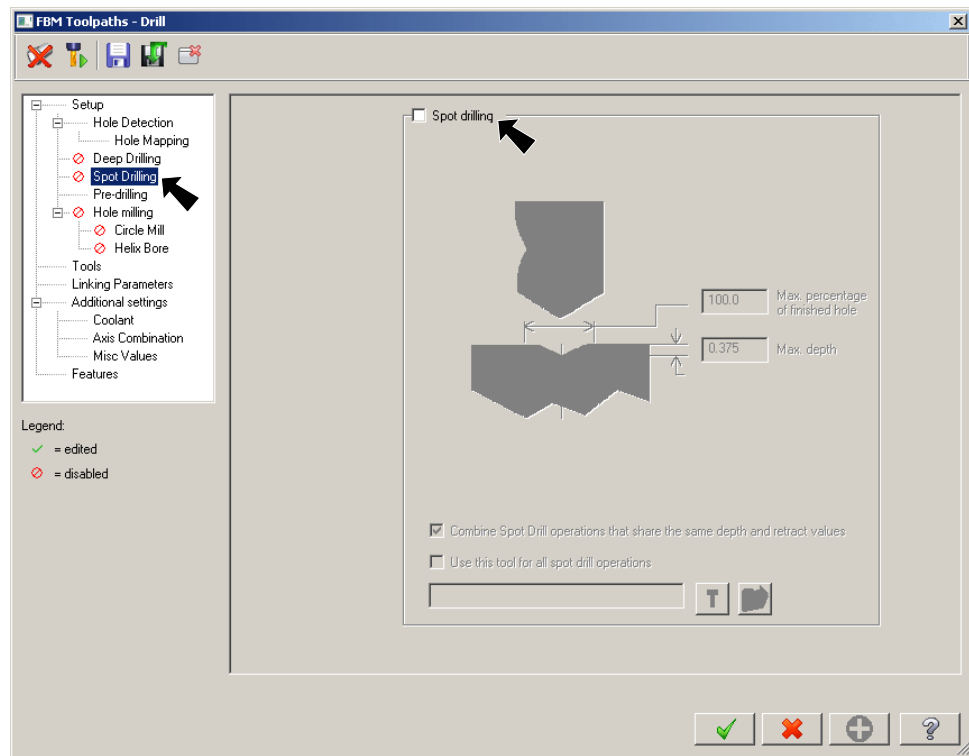

Fig. 102
Step 4. Select **Spot Drilling** from the tree control and uncheck **Spot Drilling** check box, **Fig. 102**.